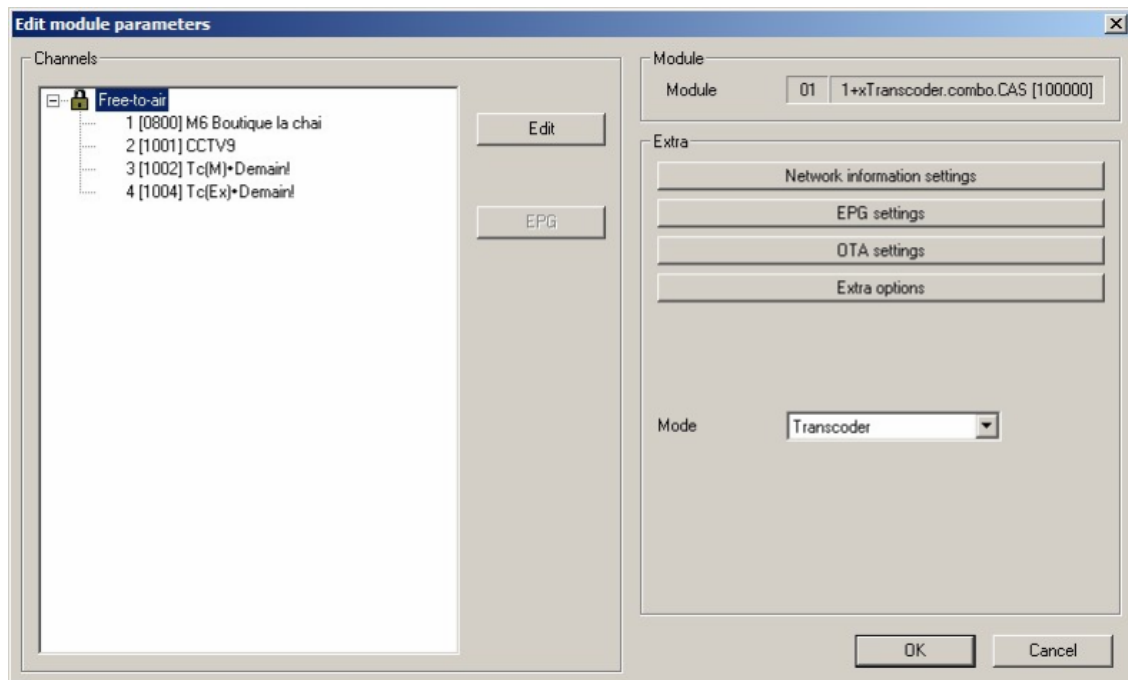

Fig.3.9
1. Select "Transcoder" mode (Fig. 3.9).